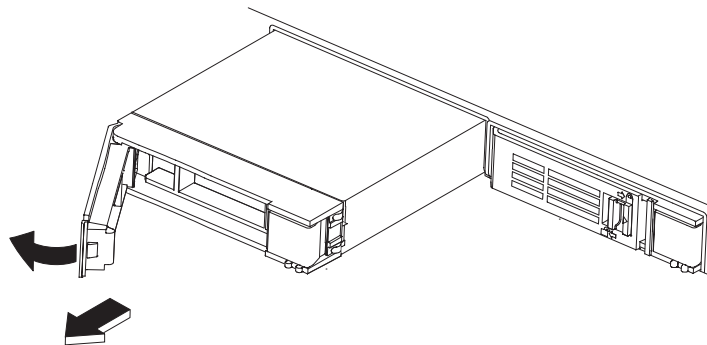

Figure 26. Removing a hard disk drive module
3. Press the blue button and the lever pops open. Figure 26 illustrates the following steps.